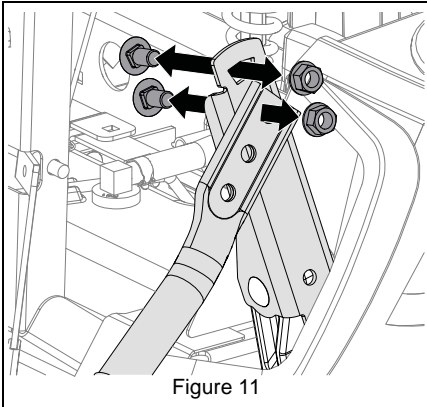

Figure 11
- Remove two jam nuts, two flat steel washers and two round head square neck bolts from the steering levers. Retain hardware for reinstallation. See Figure 11.